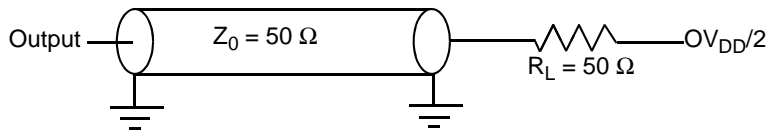

Figure 36. AC Test Load for the JTAG Interface
1. All outputs are measured from the midpoint voltage of the falling/rising edge of t_{TCLK} to the midpoint of the signal in question. The output timings are measured at the pins. All output timings assume a purely resistive 50- Ω load (see Figure 36). Time-of-flight delays must be added for trace lengths, vias, and connectors in the system.
2. The symbols used for timing specifications herein follow the pattern of $t_{(\text{first two letters of functional block})(\text{signal})(\text{state})(\text{reference})(\text{state})}$ for inputs and $t_{(\text{first two letters of functional block})(\text{reference})(\text{state})(\text{signal})(\text{state})}$ for outputs. For example, t_{JTDVKH} symbolizes JTAG device timing (JT) with respect to the time data input signals (D) reaching the valid state (V) relative to the t_{JTG} clock reference (K) going to the high (H) state or setup time. Also, t_{JTDXKH} symbolizes JTAG timing (JT) with respect to the time data input signals (D) went invalid (X) relative to the t_{JTG} clock reference (K) going to the high (H) state. Note that, in general, the clock reference symbol representation is based on three letters representing the clock of a particular functional. For rise and fall times, the latter convention is used with the appropriate letter: R (rise) or F (fall).
Figure 36 provides the AC test load for TDO and the boundary-scan outputs.